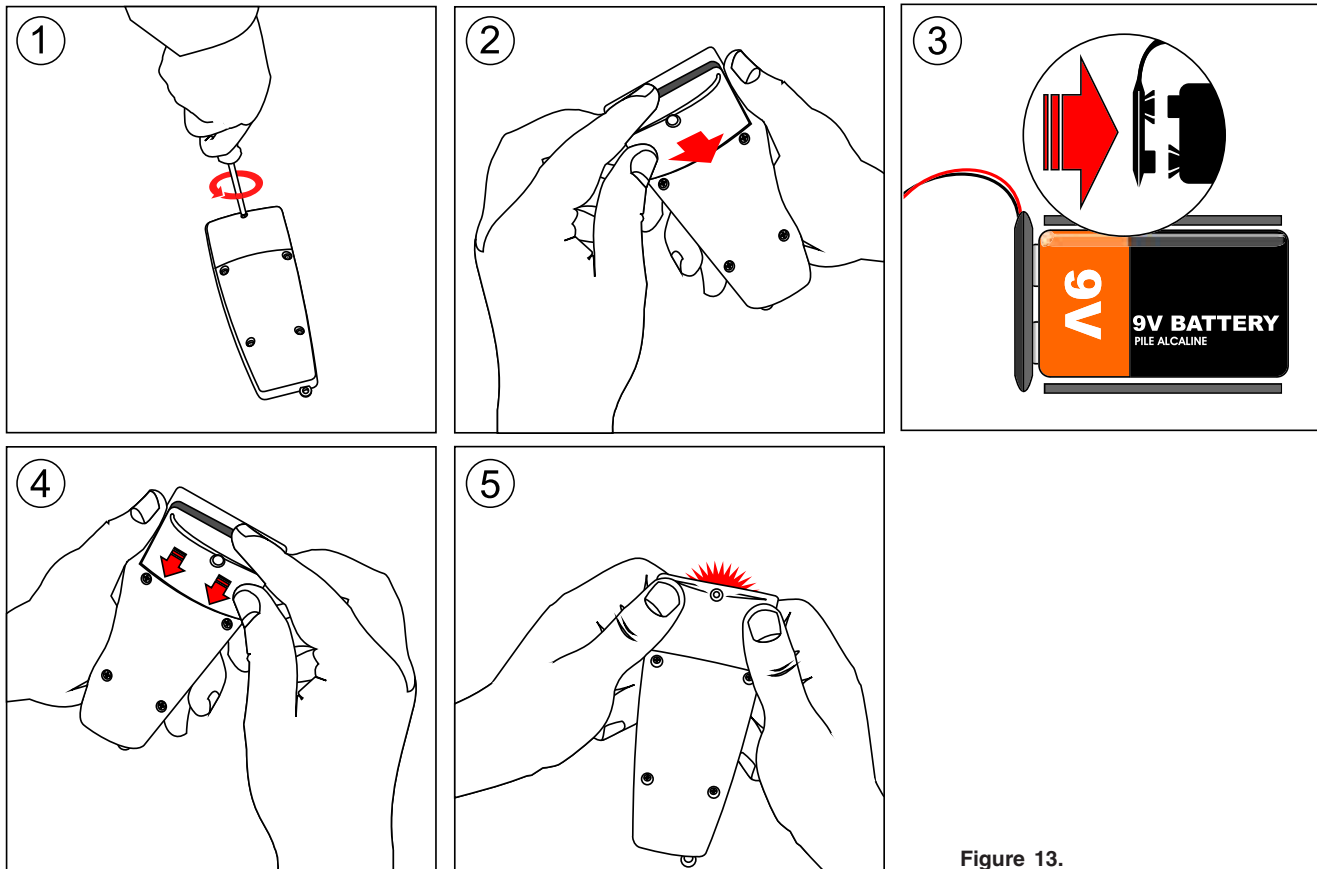

Figure 13.
1. Remove the top screw (see Figure 13, Step 1).